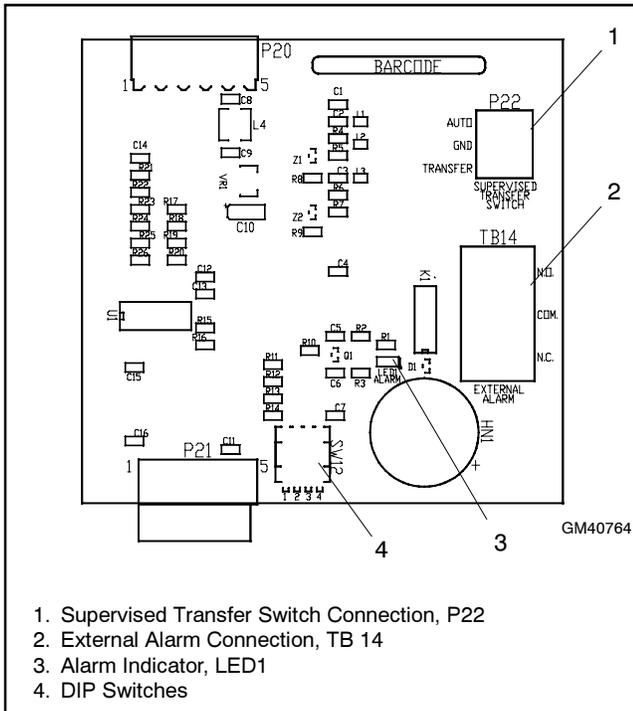

Figure 19 Switch/Alarm Module GM40764
- To enable the preferred source selection function, set alarm module DIP switch SW12-1 to ON. See Figure 19 and Figure 20.
- Connect the supervised transfer control switch to P22. See Figure 19 and Figure 21.